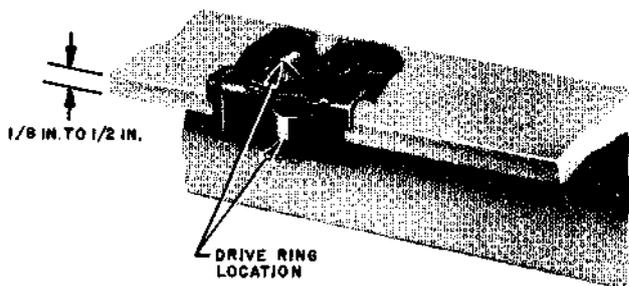

Fig. 10 – B Beam Clip, Bottom View
- A projection is provided on the opposite side and base of clip to accommodate all sizes of drive rings except the 1/2-inch (Fig. 10).